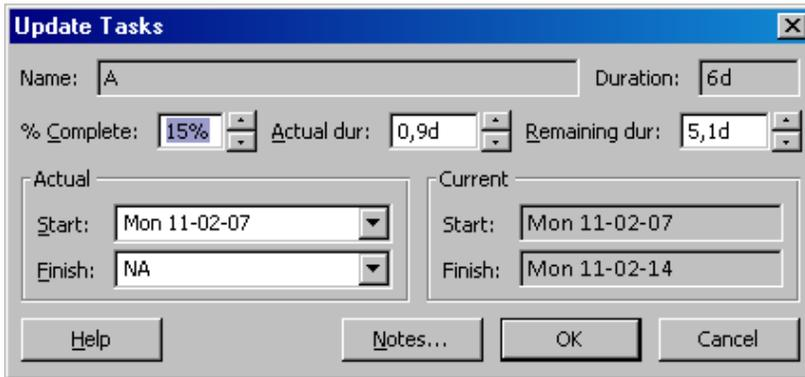

Fig. 2. Options for updating task process
- In the “Remaining dur” box, enter the remaining duration for the selected task, and then click OK (see Fig. 2).